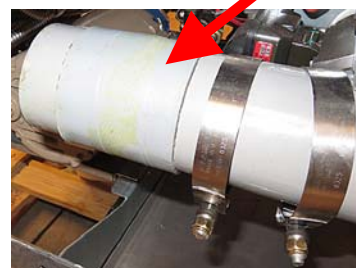

Figure 93
98. Slide the sleeve on the drain manifold (see Figure 93).